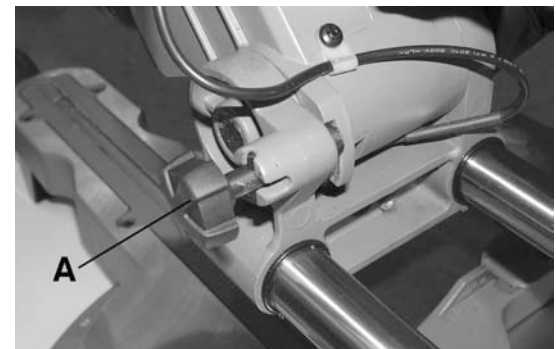

Figure 17
1. Pull and turn the saw head release knob (A) Fig.17 and lift the saw head to its full height.